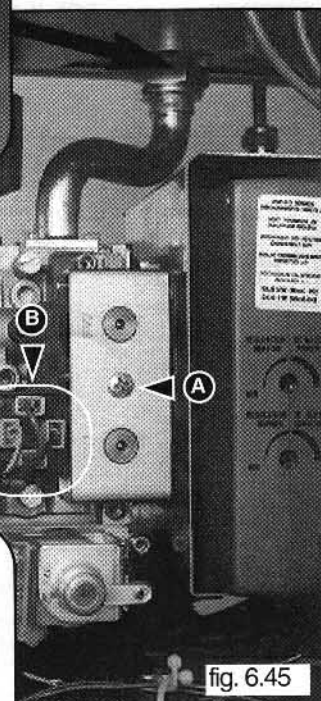

fig. 6.45
- 3 Disconnect the cables "B" (see fig. 6.45);
- 4 Unscrew the screw "A" and slide the TANDEM coils with its housing from the valve (see fig. 6.45);
- 3 Disconnect all the cables "B"(see fig. 6.45);